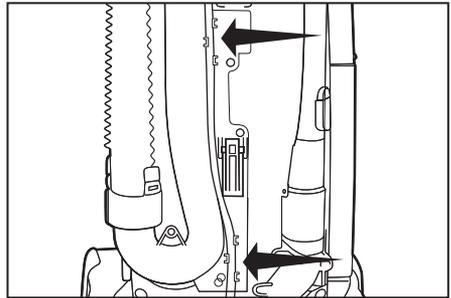

Fig. 2
- Thread the cord through the two cord guides on the back of the vacuum (Fig. 2).